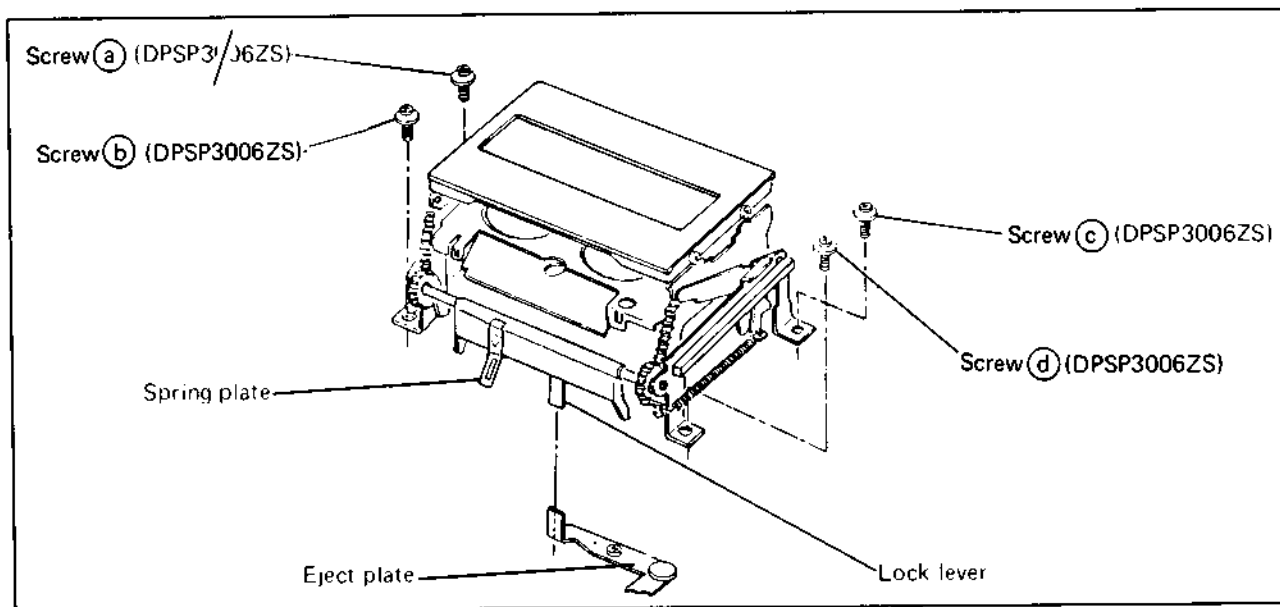

Fig. 5-4 Replacement of cassette housing
1. Remove four screws a, b, c and d from both sides of the cassette housing assembly as shown in Fig. 5-4.
3. Install the cassette housing and observe that the lock lever is positioned between the eject plate and the function assembly as shown in Fig. 5-4. If the lock lever is not in correct position, the EJECT key will not operate. And also, check that the spring plate touches to the junction assembly.